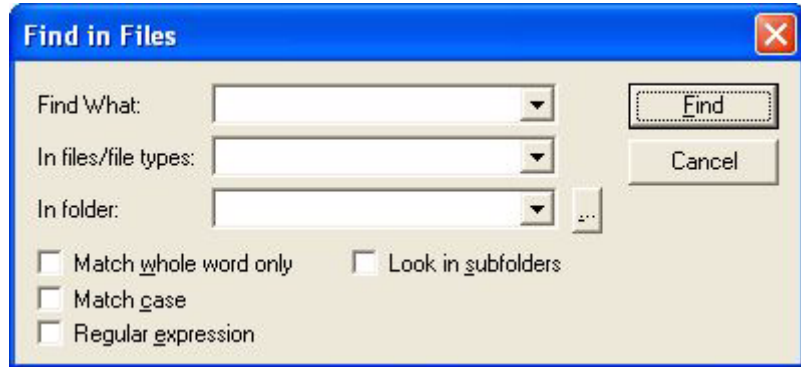

Figure 4-10. Find in Files Dialog Box
Displays the Find in Files dialog box (Figure 4-10) that provides search capability based on the criteria you specify.
- **Find in Files tab:** This tab displays output from a Find In Files process as it is generated from the results of the `Edit > Find In Files` command dialog box (Figure 4-10 on page 91).